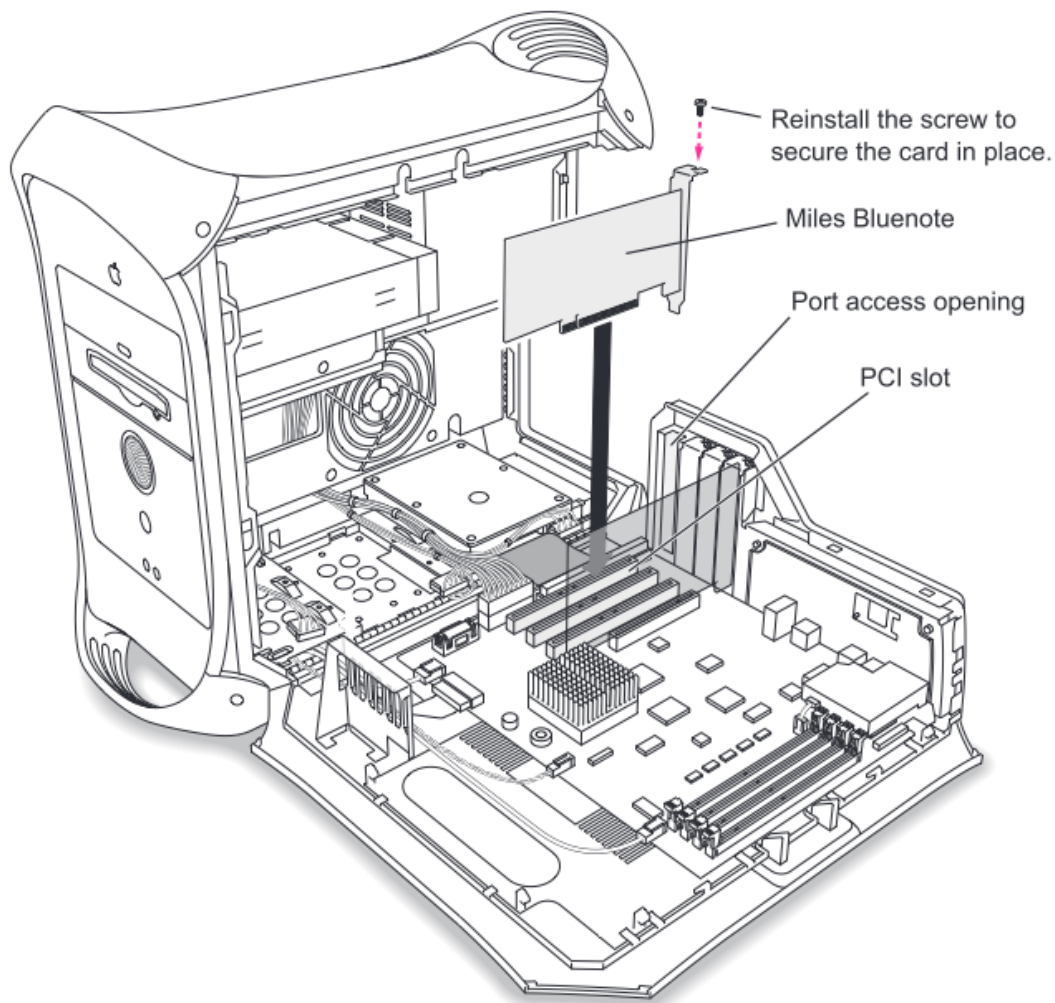

FIGURE 3 – Power Macintosh G3 card installation
- 6 Orient the host adapter for installation so that the external connector is facing the back of the System unit and align the card with the PCI connector on the system unit (see FIGURE 3). Holding the adapter by the mounting bracket and the card edge, match up the card edge connector with the PCI host computer socket and insert the card into the socket. Once the connector is in the PCI expansion slot socket tighten the mounting bracket screw to secure the card in place.